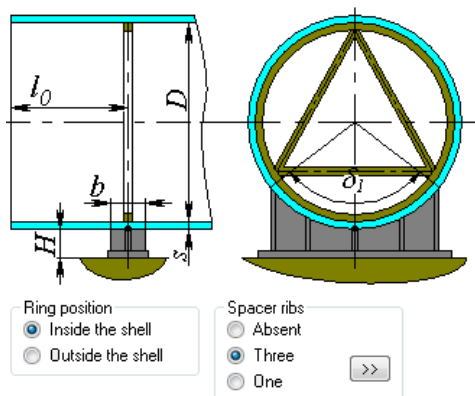

Fig. 3.98 Spacer ribs inside of ring
When supported by stiffening ring, the ring's type, placement and dimensions are set in the same way as those for cylindrical shells (see item 3.15.18). The ring is considered at calculation of cylindrical shell against pressure influence. A user can also consider presence of spacing ribs in the internal stiffening ring (Fig. 3.98). Cross-section parameters of spacing rib can be set by selecting **>>** key.